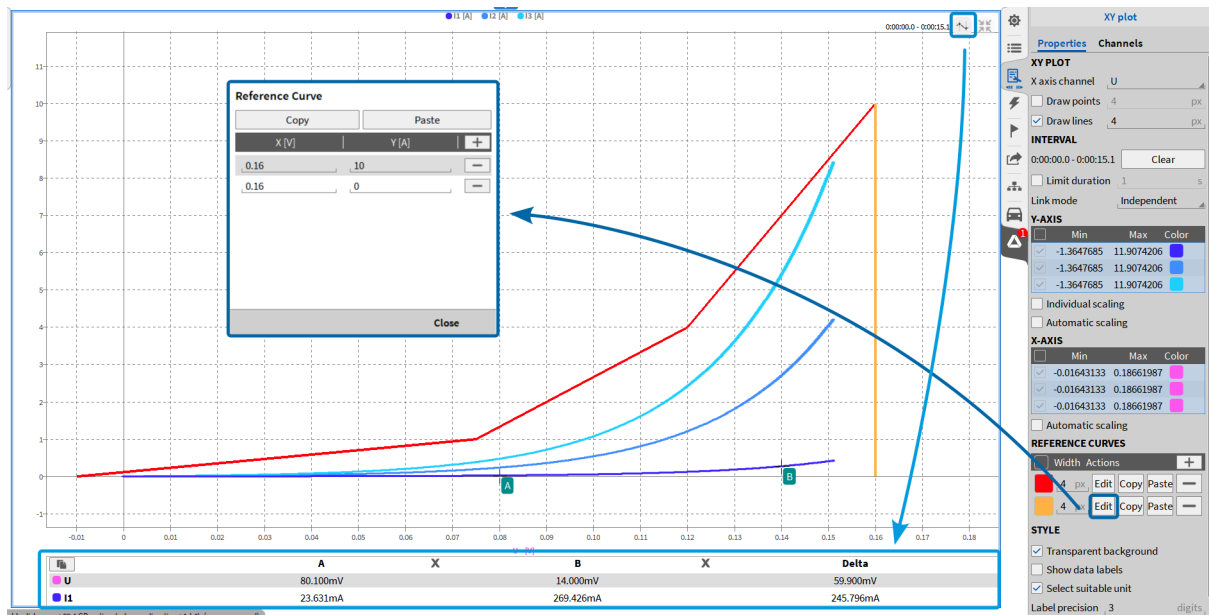

Fig. 8.90: XY plot – highlighted reference curve settings and A/B cursors
- Click Edit to define the reference curve by entering X and Y coordinates. OXYGEN will draw linear segments between the defined points (see Fig. 8.90).